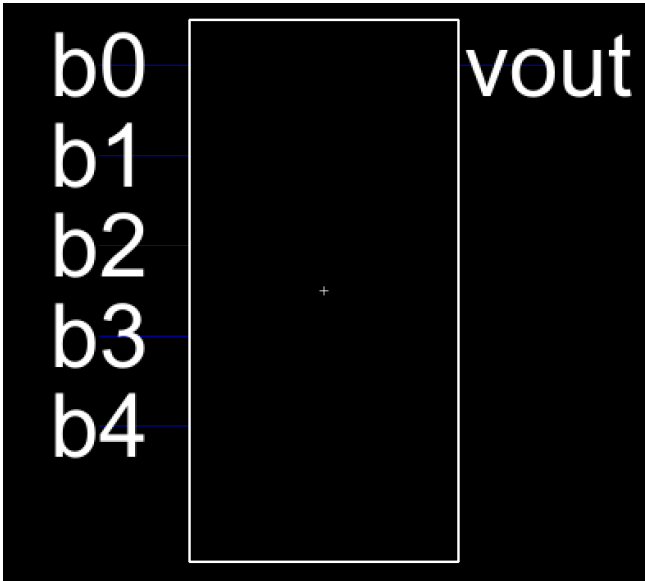

Figure 2.2: DAC Icon View
- Figure 2.2 displays the icon view of the DAC.